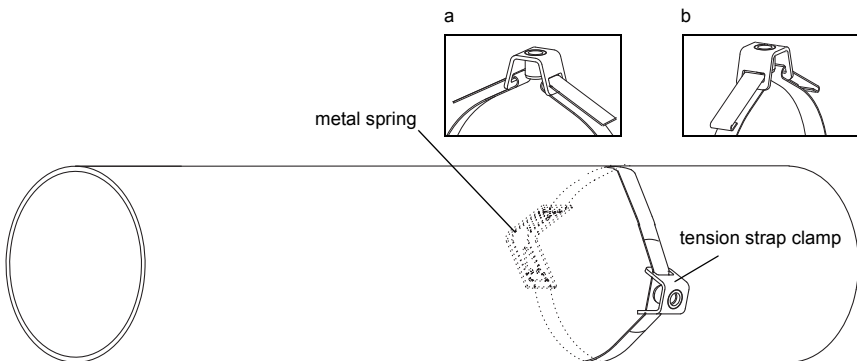

Fig. 7.26: Tension strap with the metal spring and the tension strap clamp on the pipe
- Place the tension strap around the pipe (see Fig. 7.26).
- Insert the long end of the tension strap in the second slot of the tension strap clamp (see Fig. 7.26 a).
- Bend both ends of the tension strap (see Fig. 7.26 b).